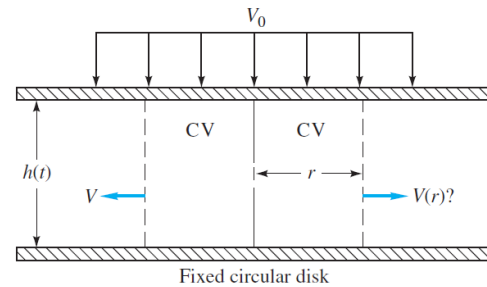

Fig. 3.4
3.4 An incompressible fluid in Fig. 3.4 is being squeezed outward between two large circular disks by the uniform downward motion V_0 of the upper disk. Assuming one-dimensional radial outflow, use the control volume shown to derive an expression for $V(r)$.